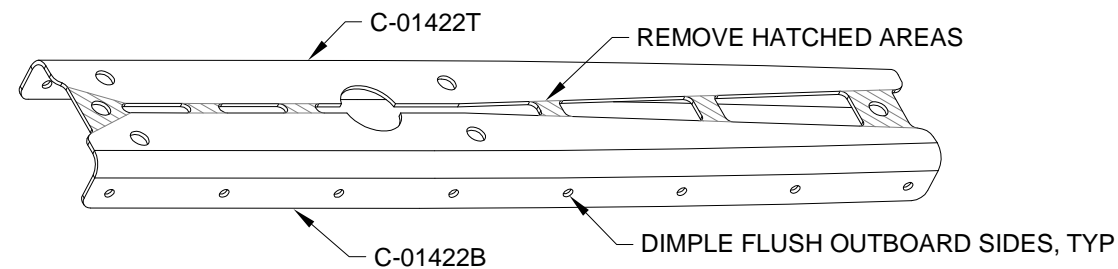

FIGURE 2: CANOPY LATCH BRACKETS
Step 3: Dimple all holes in the flanges of the C-01422 Canopy Latch Brackets. See Figure 2.
Step 4: Label and separate the canopy latch brackets as shown in Figure 2.